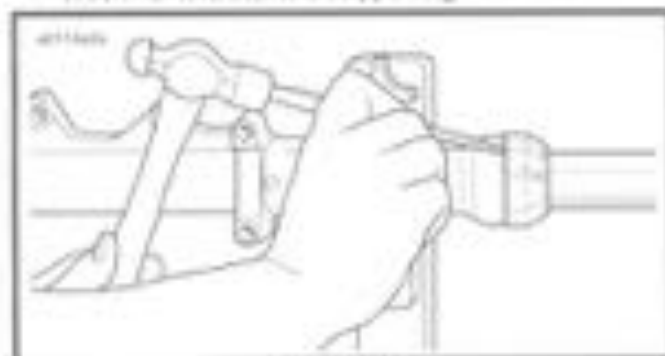

Figure 2-67.
11. See Figure 2-67 and 2-68. Remove the cover from the slider. Remove seal and stopper ring.